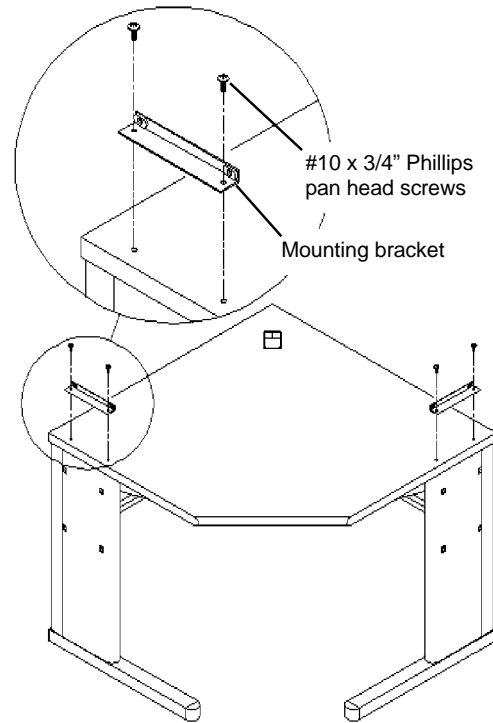

Figure 3
2. Install **Mounting Brackets** at each corner of the work-surface with the #10 x 3/4" Phillips pan head screws provided. See **Figure 3**.